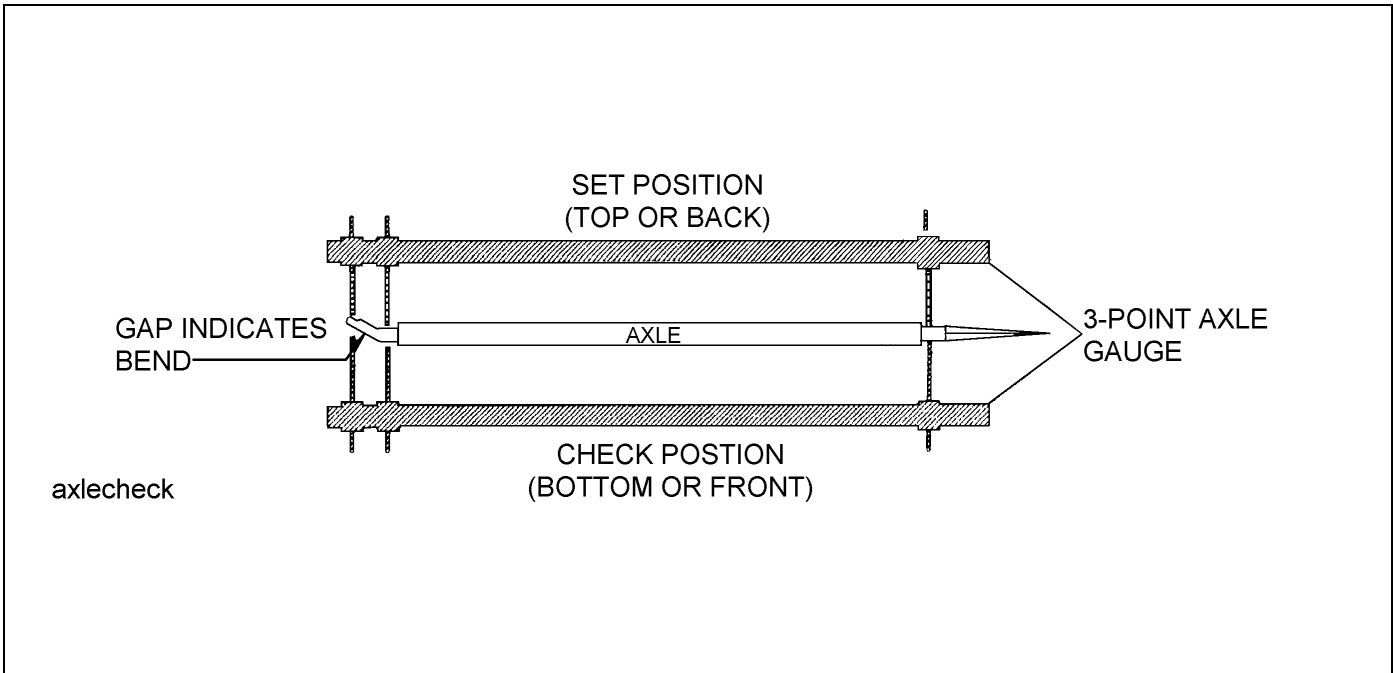

Figure 4-7: Checking Axle for Bend
2. Place a 3-point axle gauge against the front side of the axle, and adjust each axle gauge point to the axle. (Double point end against the inner and outer wheel bearing surfaces of the spindle being checked and the other point on the inner bearing surface on the other spindle.)(See Figure 4-7.)
3. Move the axle gauge and place against the back side of the axle. If either of the points of double point end fails to touch the axle surface, a bent spindle is evident. A point gap of .015" or more is considered excessive tire “toe” and the axle must be replaced (See Figure 4-7.)